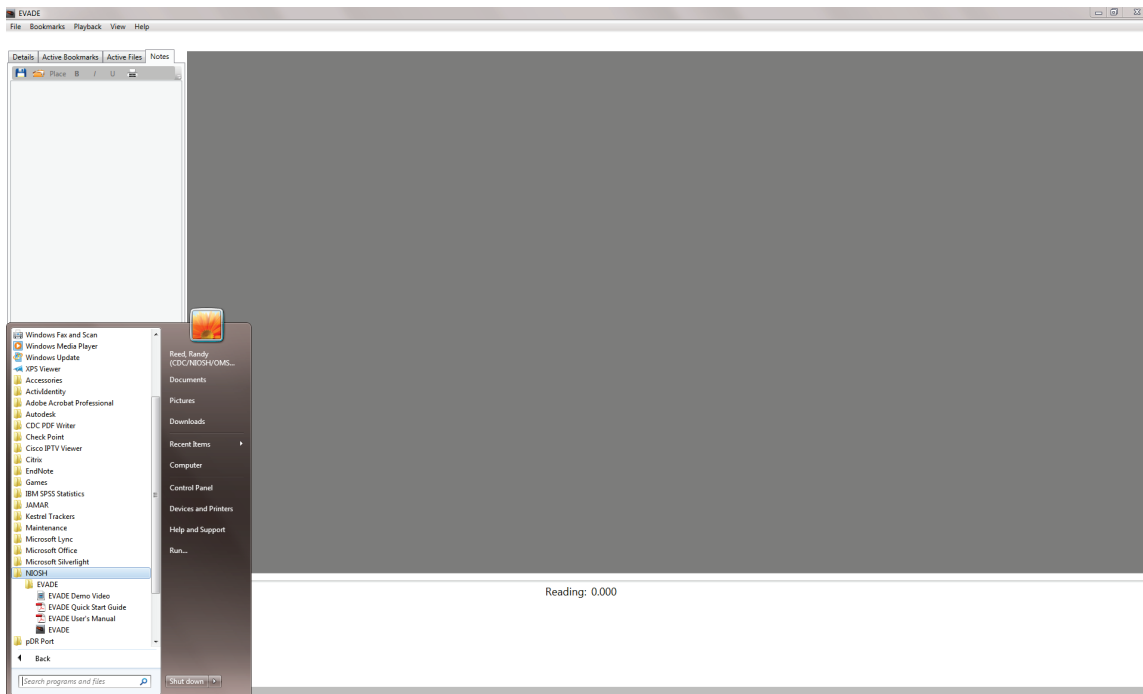

**Figure 13. Installation complete window.**
10. Once the installation is complete, a window will appear notifying you that the installation was successful (Figure 13). A check box is automatically selected to create an EVADE shortcut on the desktop. Deselect the check box if you do not want a shortcut created on the desktop.